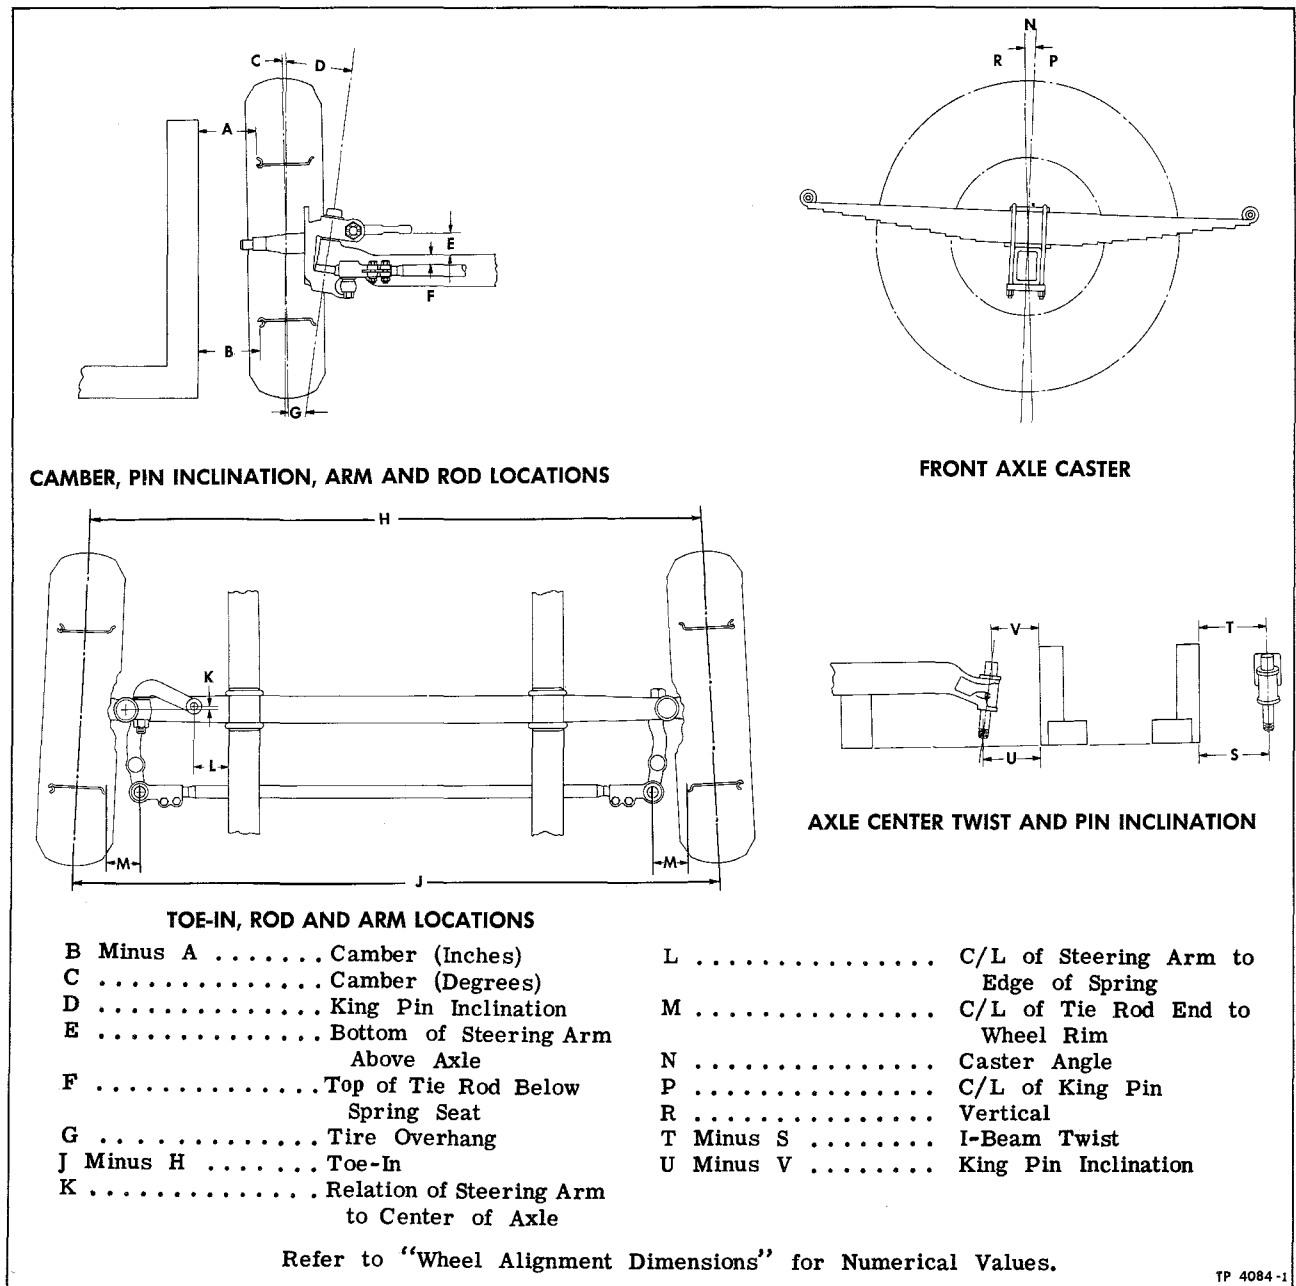

Figure 1—Front End Alignment Chart
Front end alignment chart (fig. 1) indicates points from which alignment dimensions are taken. "Specifications," at end of this section, lists correct alignment data for each model. This data should be followed when checking alignment, and checking should be done with precision equipment and instruments.
3. Place vehicle on level floor, with full weight on wheels, then take final camber reading. If camber gauge is not available, readings can be taken as shown on chart, (fig. 1). Place square as shown and measure distances "A" and "B." "B" should exceed "A" by amount listed in "Specifications" at end of this section. Camber dimensions of right wheel should not vary over 3/32" from camber dimensions of left wheel. If
King pins are inclined ("D," figure 1) to decrease friction between tires and road when turning. Special instruments must be used to check king pin inclination when axle is installed in vehicle. When axle is removed, check can be made on bench as follows:
Place two uniform blocks on level surface, then rest spring seats on blocks as shown in figure 1. Using square, measure "U" and "V" dimensions.
While axle is set up on blocks, check axle center twist by measuring distances "S" and "T" (fig. 1). Difference between dimensions "S" and "T" equals axle center twist. If axle center is twisted, refer to "Straightening Axle Center," later in this section for corrective information.
All other alignment factors must be correct and steering arms must be correctly installed before steering geometry is checked. Check following points using alignment instruments. Refer to figure 1.
Specifications and pertinent front axle service information is given in "Specifications" at end of section and in Front End Alignment Chart (fig. 1).